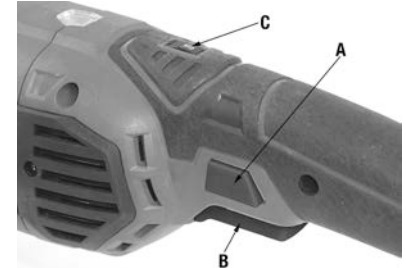

Figure 5
To turn the polisher/sander On, push the "Trigger Safety" button (A) Fig.5 located on the side of the handle, then press the trigger (B). To stop the polisher/sander, release the trigger.
This Polisher/Sander can operate at different speeds, the speed can be adjusted by using the variable speed selector dial (C) Fig.5. Hold the polisher/sander in normal operation, and turn the variable speed selector dial to increase or decrease the speed.